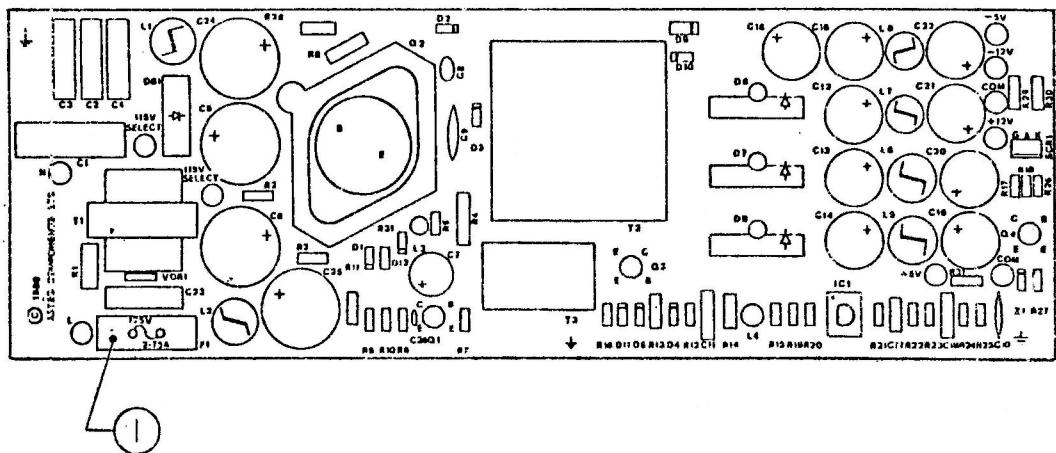

FIGURE 9
- IPL.11 Power Supply Fuse (Figure 9)
POWER SUPPLY FUSE (Figure 9)